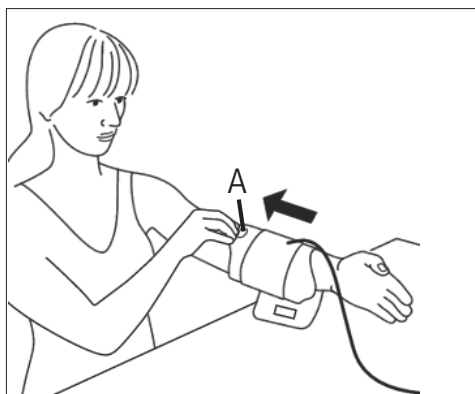

Fig. 1
- The blood pressure must be measured on a bare upper arm. If the cuff is completely open, thread the end of the cuff through the metal ring to form a loop. The hook-and-loop fastener must face outwards. Hold the cuff by the grip tab A (see Fig. 1) and pull it over the upper arm.